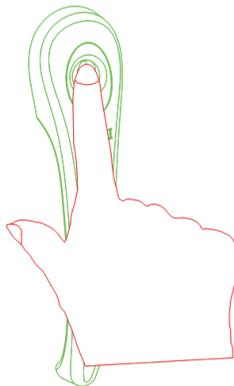

Fig.2
2. After electrifying, put any fingerprint on the fingerprint scanner and you can unlock and open the cabinet door. As shown in Fig.2.